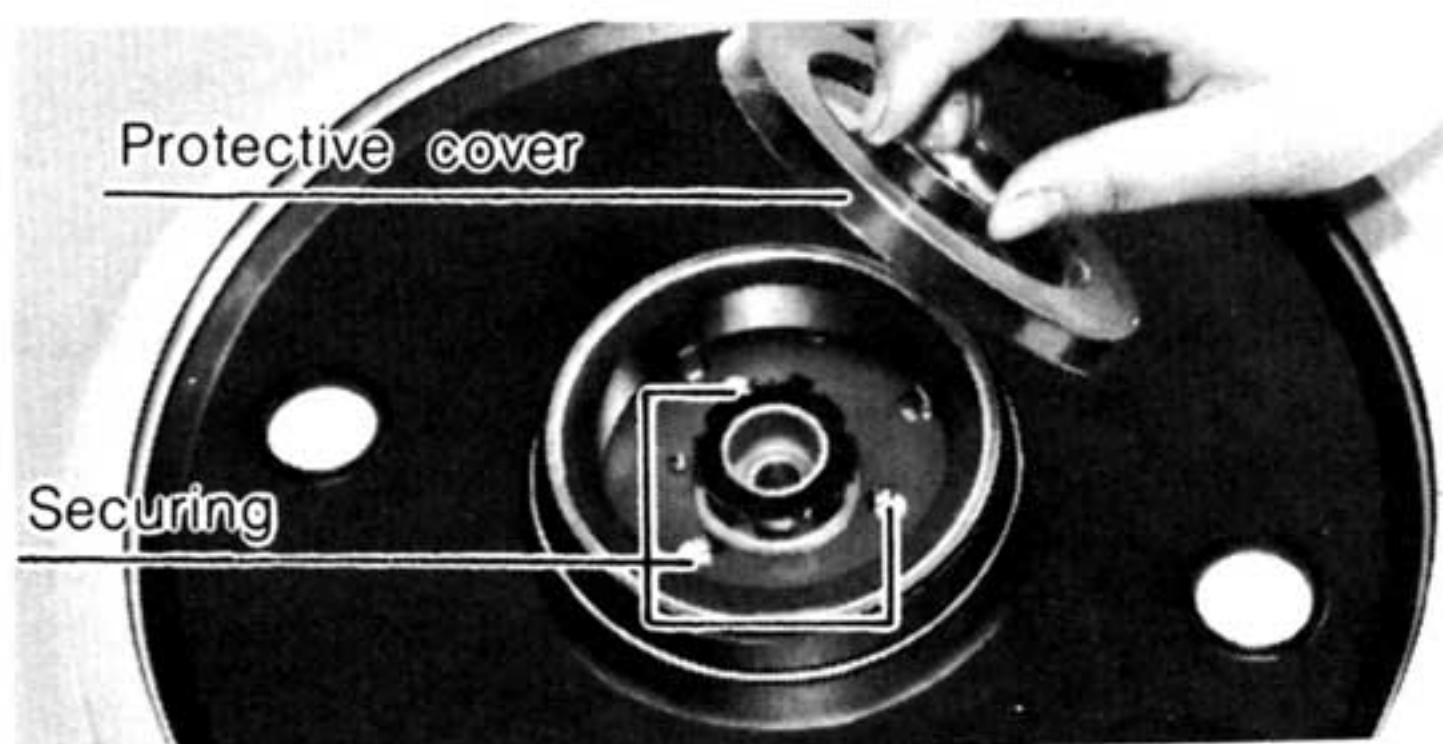

Figure 5
③ REMOVE THE PROTECTIVE COVER FROM THE ROTOR OF THE TURNTABLE PLATTER. (See Fig.5)
- 3) Do not remove the three screws for securing the magnet. (See Fig. 5)